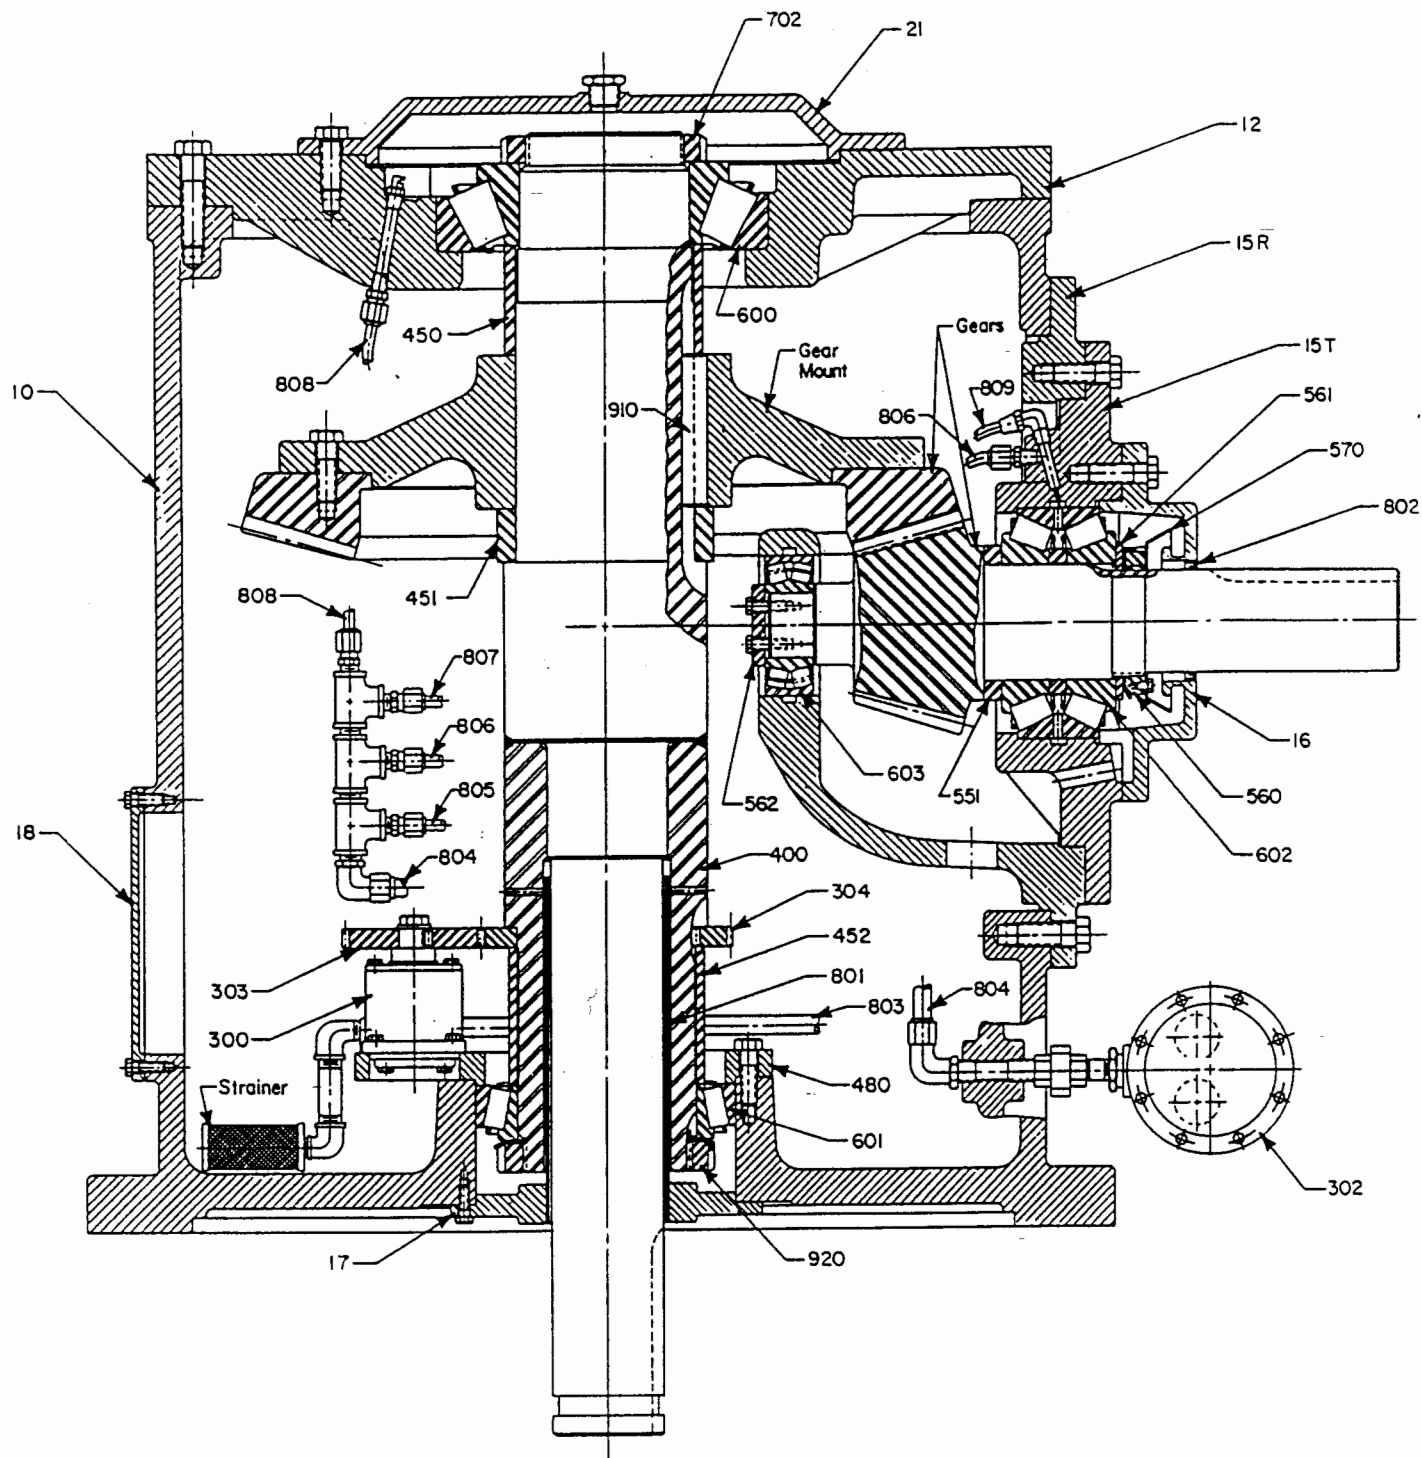

Figure 2
- 1.7.4 On models having a two piece horizontal carrier (see Figure 2), pull the horizontal carrier (15R) out far enough to allow it to clear the gear case register.
Note: On Models without a non-reverse mechanism (see Fig. 2), proceed to Step 2.3.
- 3.9 Remove the inner and outer bearing cups (602 & 603) from the horizontal carrier (14) using a brass punch or bearing puller.
4.0 Disassembly of the Horizontal Shaft Assembly for Models with Two Piece Horizontal Carrier (See Figure 2).